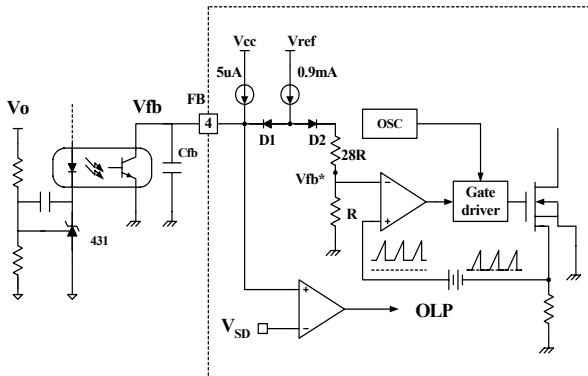

Figure 2. Pulse width modulation (PWM) circuit
2. Feedback Control : The FS6X1220R employs current mode control. The voltage of the feedback pin is compared with the current sense voltage for pulse width modulation (PWM). Figure 2 illustrates the simplified PWM block. The feedback voltage determines the peak drain current of the SenseFET. Usually opto-coupler along with TL431 are used to implement feedback network. The collector of the opto-coupler transistor is connected to feedback pin and the emitter is connected to the ground pin. When the voltage of the reference pin of TL431 exceeds the internal reference voltage of 2.5V, the opto-coupler diode current increases, pulling down the feedback voltage.
3.1 Pulse-by-pulse current limit : As shown in figure 2, the drain current of the power MOSFET is limited by the inverting input of PWM comparator (Vfb*). Assuming that the 0.9mA current source flows only through the internal resistor (28R + R = 2.9k), the cathode voltage of diode D2 is about 2.6V. Since D1 is blocked when the feedback voltage (Vfb) exceeds 2.6V, the maximum voltage of the cathode of D2 is 2.6V. Therefore, the maximum value of Vfb* is about 0.1V, which limits the peak value of the power MOSFET drain current.